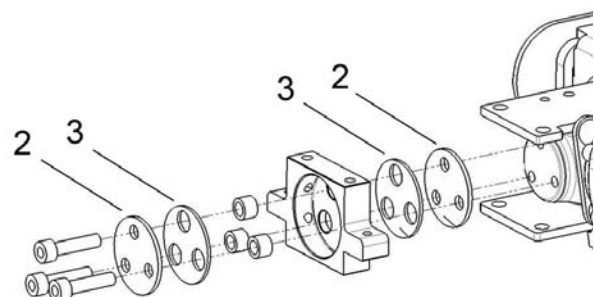

Fig. 3. Remove the three screws holding the washers and dampfers of the actuator.
3. Remove the three screws holding the washers and dampfers of the actuator. See fig. 3.